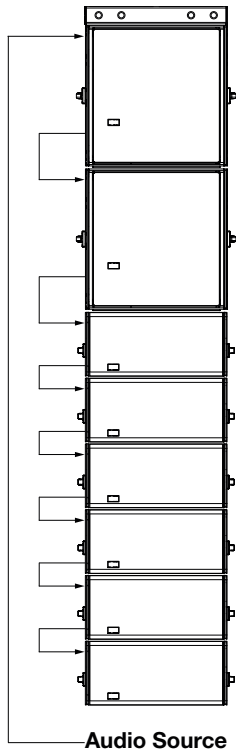

Figure 4: Flown Mixed Array
- Flown mixed arrays of LINAs and 750-LFCs (Figure 4)